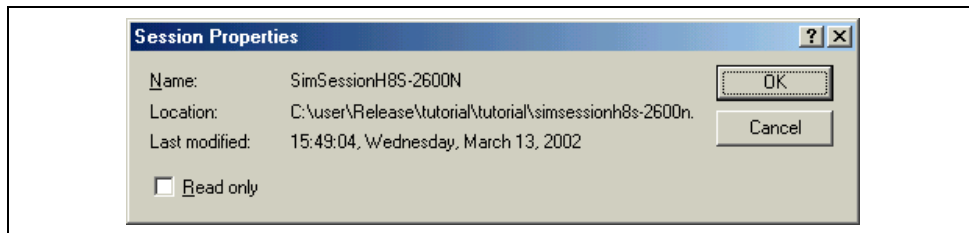

**Figure 1.7: Add new sessions Dialog**
2. Click the “Add...” button. The “Add Session” dialog box will be invoked (figure 1.7).
2. Click the “Add...” button. The “Add new session” dialog box will be invoked (figure 1.7).
1. Select **[Options->Debug Sessions...]** to display the “Debug Sessions” dialog box (figure 1.7).